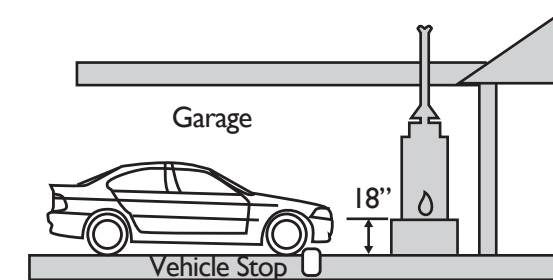

Figure 3
- b) Installation of a water heater in a garage, unless the unit is installed so that the burner and ignition devices are at least eighteen (18) inches above floor level and protected to avoid damage by moving vehicle. See Figure 3.